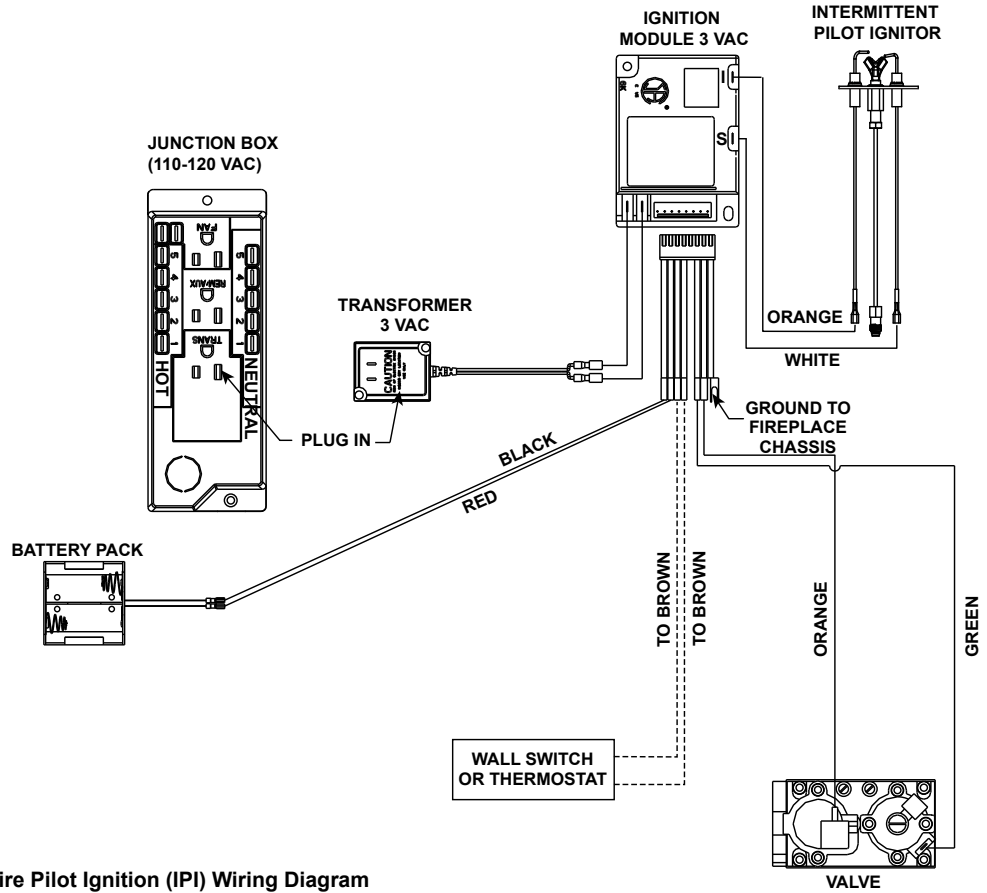

Figure 8.2 Intellifire Pilot Ignition (PI) Wiring Diagram
- Refer to Figure 8.2, Intellifire Pilot Ignition (IPI) Wiring Diagram.